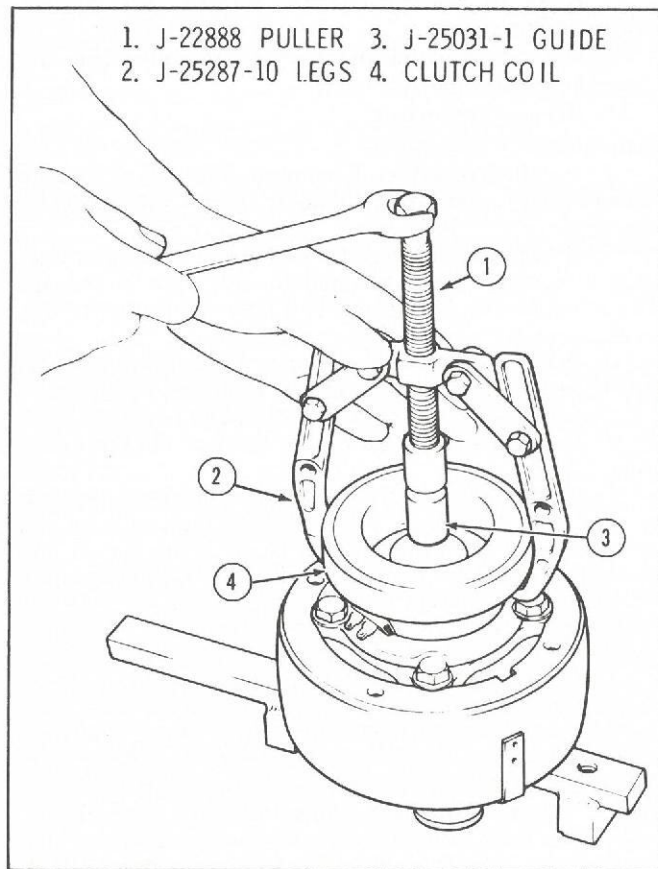

Fig. 1C1-1—Removing Poly Groove Clutch Coil
2. If removed, reconnect liquid line at evaporator inlet and low pressure line at accumulator inlet. (Refer to page 1B1-12, figure 1B1-13 for pipe and hose connection torque specifications.)
9. Install the two (2) front body mount bolts with the lower cushions and retainer. Torque the front body mount bolts to 105 N•m (77 ft. lbs.).
3. Install guide J-25031-1 to the front head, then install puller J-22888 using puller legs J-25287-10 and remove the clutch coil from the front head. (Fig. 1C1-1).
- Replaces Fig. 1C1-22